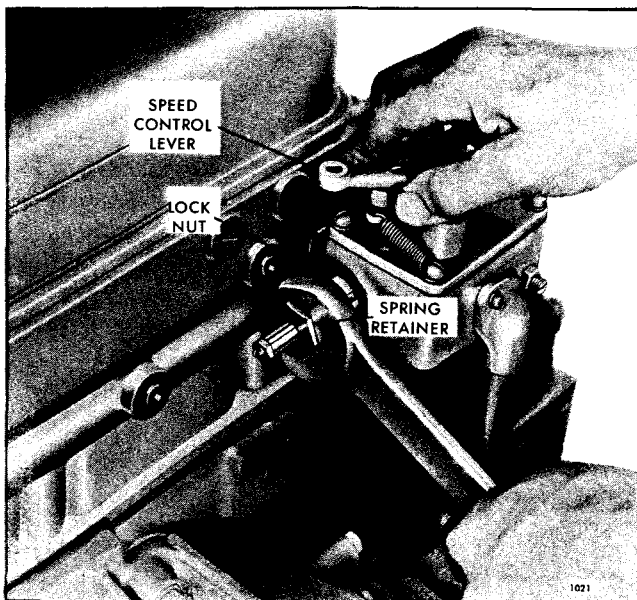

Fig. 7 - Adjusting Maximum No-Load Speed
1. Loosen the lock nut (Fig. 7) and back off the high-speed spring retainer approximately five turns.